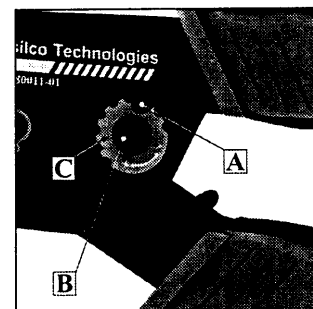

Fig. 6.
1. Loosen and remove allen head screw (A) using a 2.5 mm allen wrench. (Fig.6.)
2. Using a screw driver turn eccentric axle (B) and toothed adjustment wheel (C) into new position.